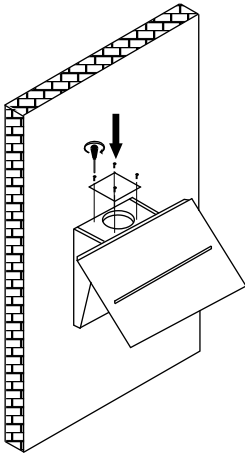

Fig 11
9. If you are using the back outlet then you must turn the motor 90 degrees and fit the plate to the top outlet (Fig 11).